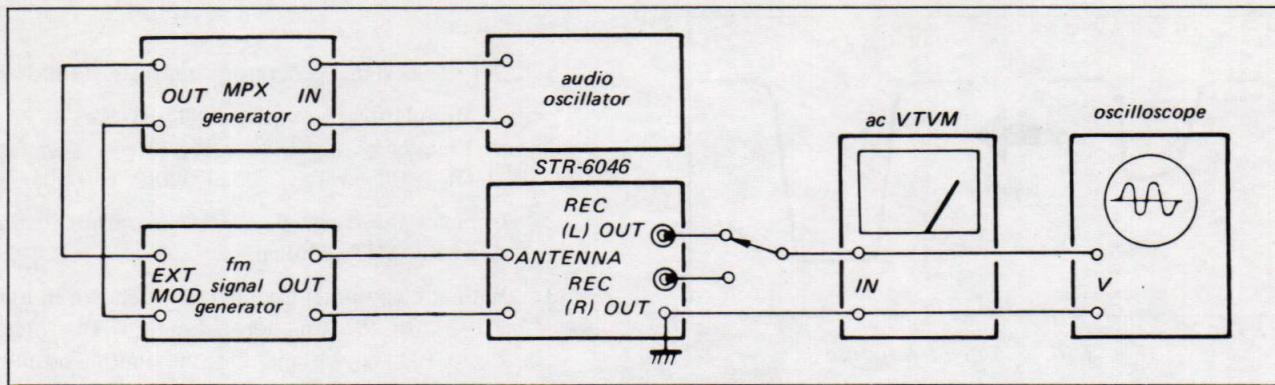

Fig. 3-13. Fm stereo separation adjustment test setup
1. Connect the equipment as shown in Fig. 3-13. Set the fm signal-generator's control as follows:
- (a) With the equipment connected as shown in Fig. 3-13 set the MPX stereo generator controls as follows.